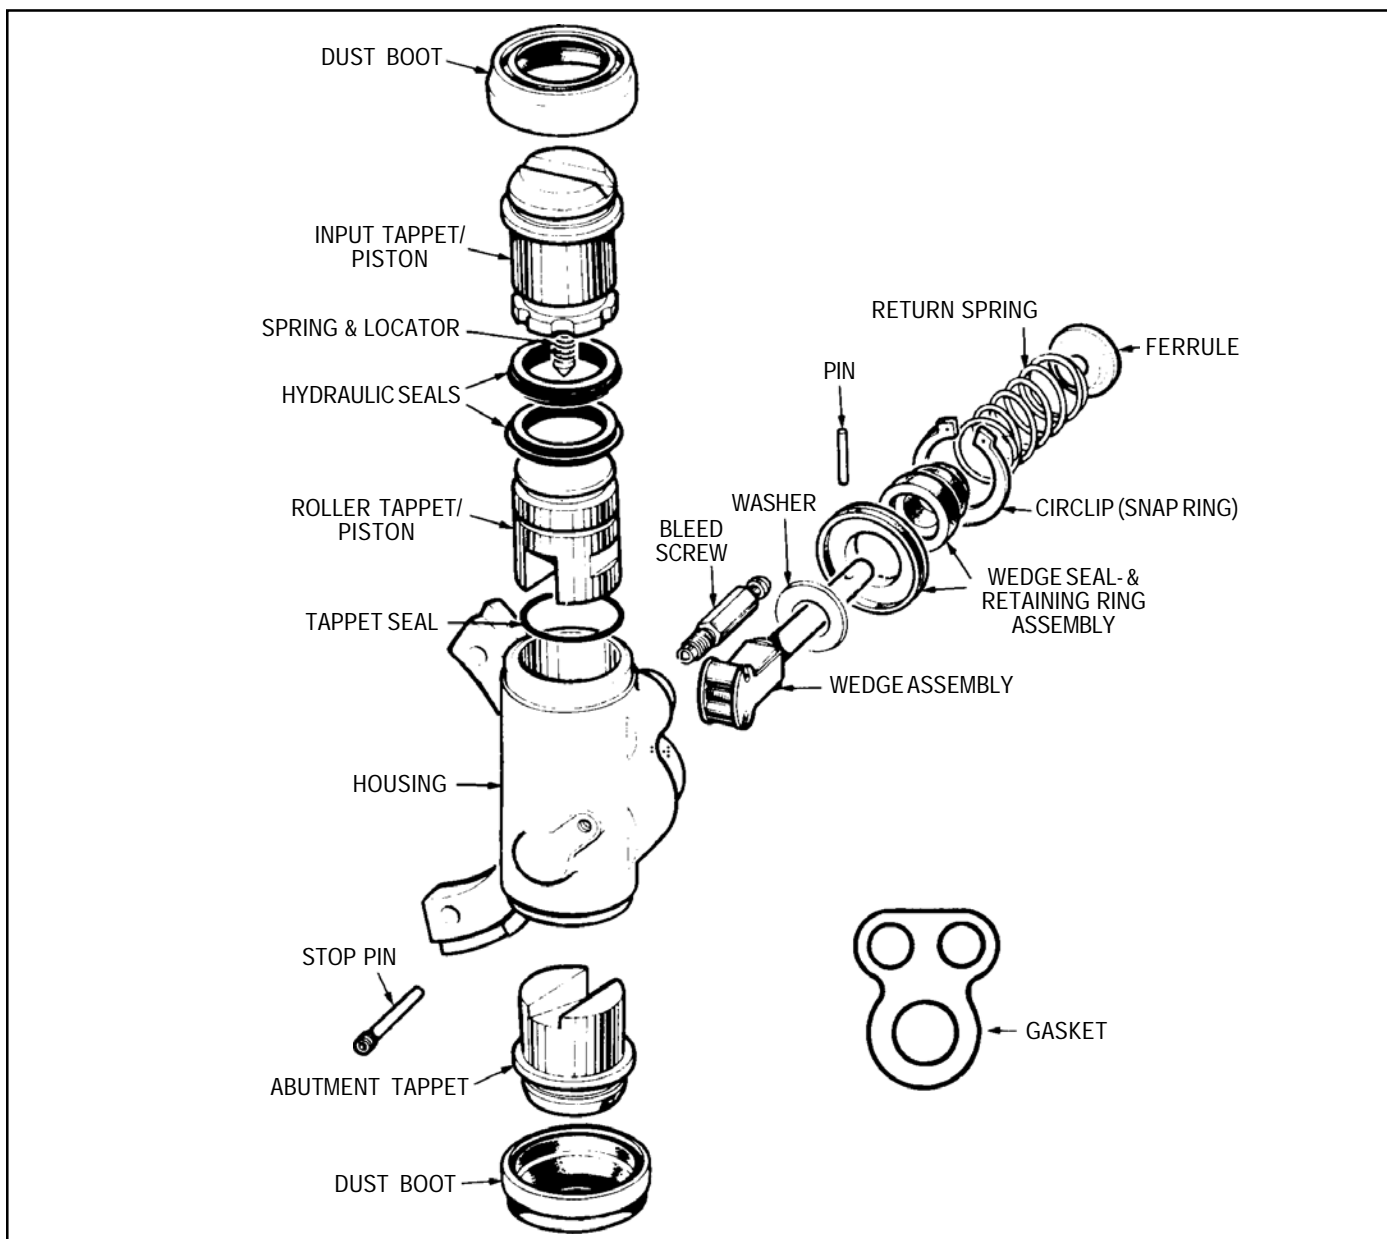

FIGURE 17 - EXPANDER UNIT
3. Use snap ring pliers to compress and remove the circlip (snap ring), *Figure 17*.
7. Push the roller tappet/piston from the housing in the direction of the input tappet/piston, *Figure 17*. Note: Do not slide the roller tappet/piston past the wedge turret.